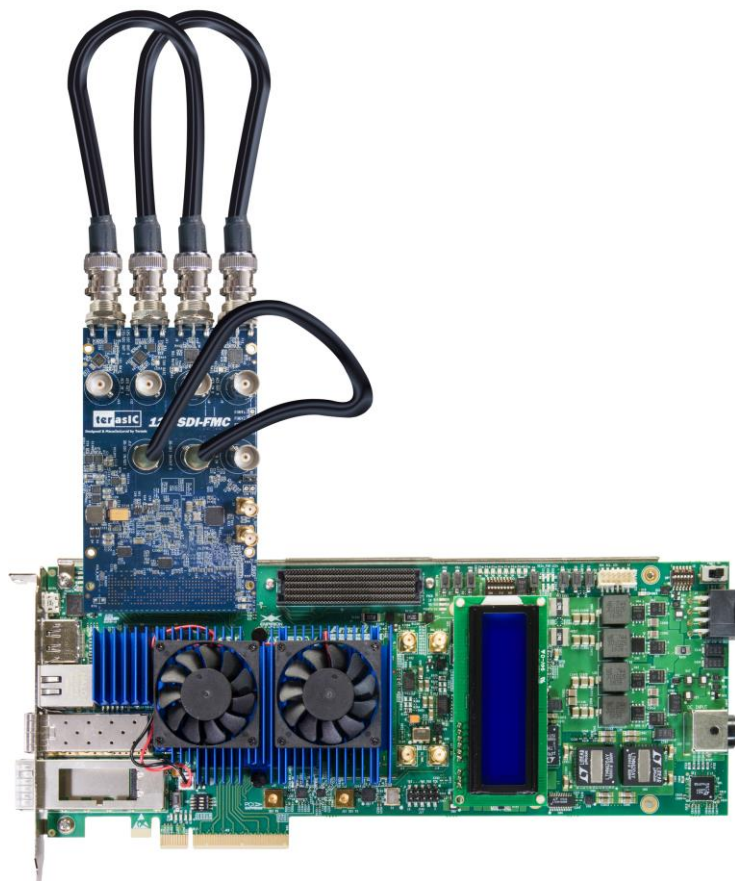

Figure 4-9 Hardware setup of SDI-FMC with A10GFP
Figure 4-9 shows the demo setup of SDI-FMC with A10GFP FPGA mainboard. The SDI-FMC should be installed on the FMC-A expansion header of A10GFP. The SDI-FMC should be installed on the FMC-A expansion header of the A10GFP. Use one BNC to BNC 3G SDI Cable to connect BNC port J10 and the BNC port J13. Use one BNC to BNC 12G SDI Cable to connect the BNC port J11 and BNC port 15, and use another BNC to BNC 12G SDI Cable to connect the BNC port J14 and BNC port 8.
2. Make sure the SDI-FMC is installed as shown in **Figure 4-9**.